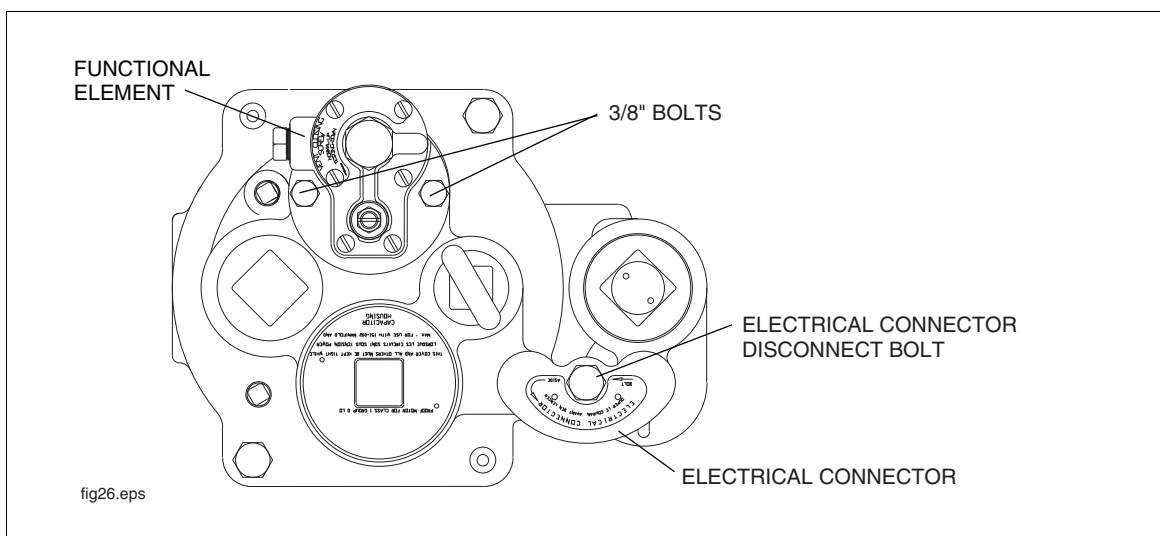

Figure 32. Packer with Functional Element
2. Back out the electrical connector disconnect bolt (see Figure 32).